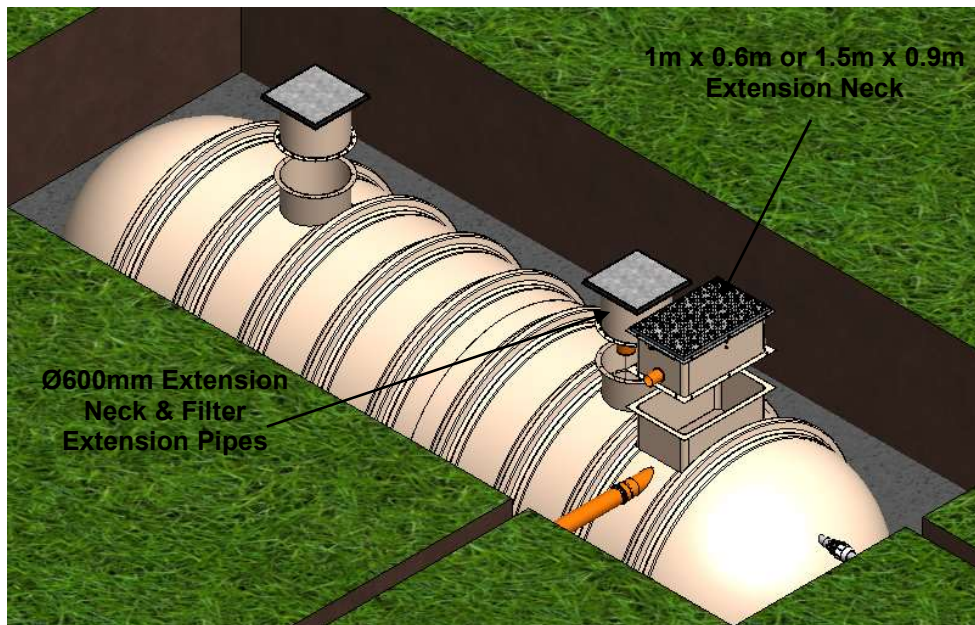

Figure 5
- 4.20. Wait for concrete to sufficiently cure and fit extension shafts to the main tank with mastic and M10x40mm bolts supplied, ensuring a watertight seal all round (**Fig 5**).